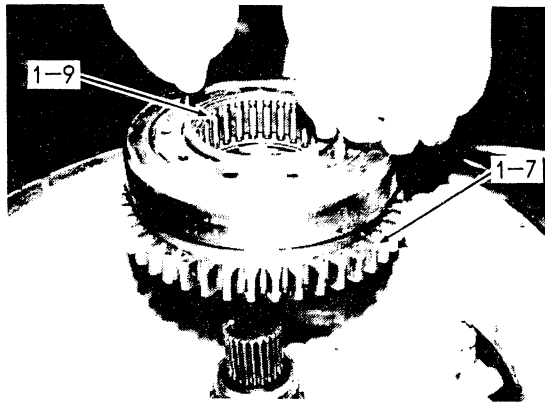

Fig. 5-50 Removing Input Gear
- (8) Remove input gear (1-7) in the manner depicted in Fig. 5-50, and remove roller bearing (1-9) from inside the gear.